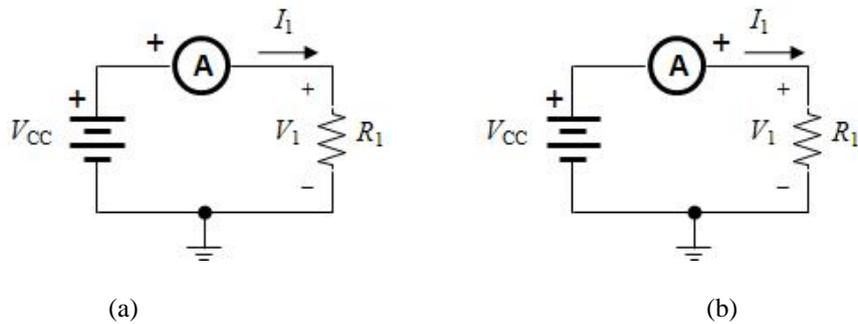

Figure 7 Electric diagrams and variable conventions using the DC current measurement layout in Fig. 5.
In this sense, a schematic diagram for the current measurement layout of Fig. 5 is depicted in Fig. 7. An arrow represents the direction of I_1 , which flows from the positive to the negative pole of the power supply. By convention, the entrance point at the resistor sets the positive sign of its voltage drop (V_1). Finally, the supply V_{CC} , the ammeter (A) and the resistor (R_1) form a *closed path* (or *mesh*), whereas a *node* is any connecting point between two (or more) terminals.